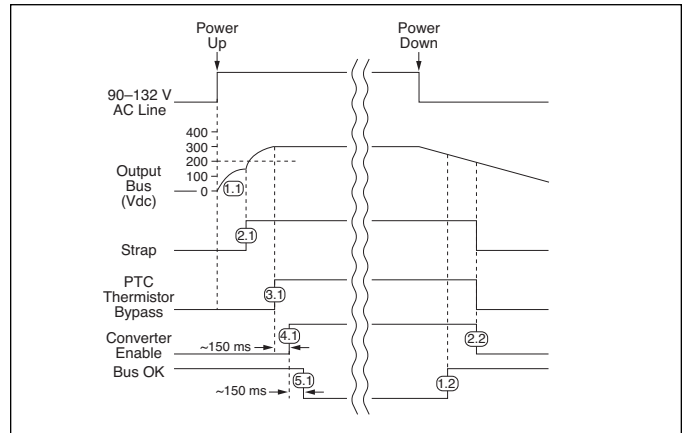

Figure 9-4 — Timing diagram: Power-up / down sequence
**POWER-UP SEQUENCE (Figure 9-4)**
**POWER-DOWN SEQUENCE (Figure 9-4)**